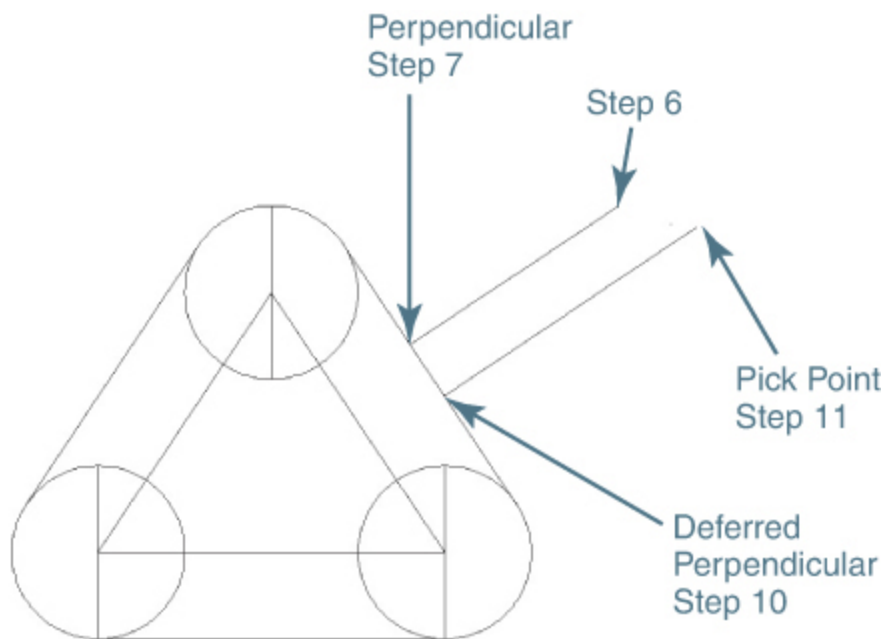

Figure 5-35
- 7** Place your cursor over the angled line on the right side of the triangle, and wait until the **Perpendicular** AutoSnap marker and tooltip are displayed. Pick a point while the AutoSnap marker is displayed (see Figure 5-35).
Perpendicular AutoSnap marker and tooltip are displayed. Pick a point while the AutoSnap marker is displayed (see Figure 5-35).
11 Move your cursor up to the right and pick another point to create a perpendicular line segment (see Figure 5-35).
13 Save your drawing. Your drawing should look like Figure 5-35.